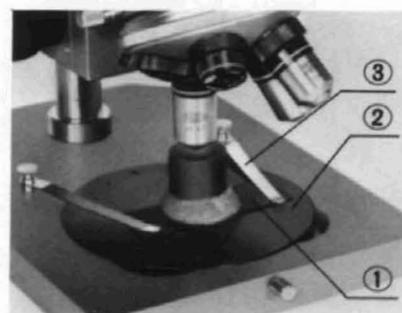

Fig. 2
- 2) Place the specimen slide on the stage plate ② and fasten it with clips ③. (Fig. 2)